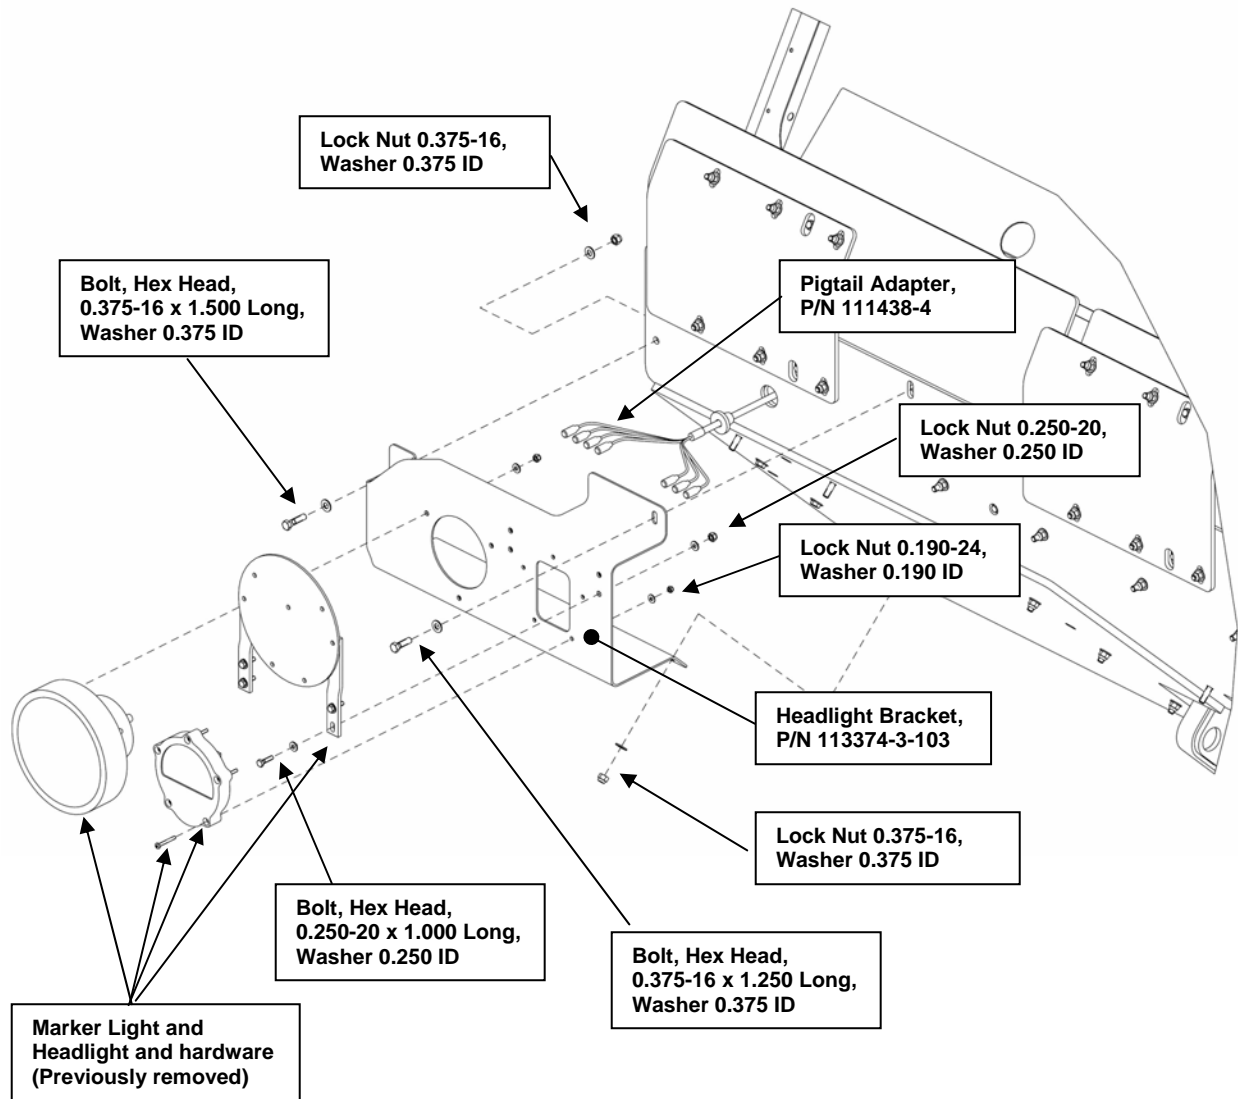

**Figure 50. Front Blackout Light.**
- l) Connect the mating end of the Pigtail Adapter (P/N 111438-1) to the Blackout Light wire that was previously disconnected. Remove the rubber boot from the other end of the Pigtail Adapter and rout the wire through a hole in the armor as shown in Figure 50. Re-install the rubber boot.
- m) Using the original hardware, attach the Blackout Light to the bracket, as shown in Figure 50.